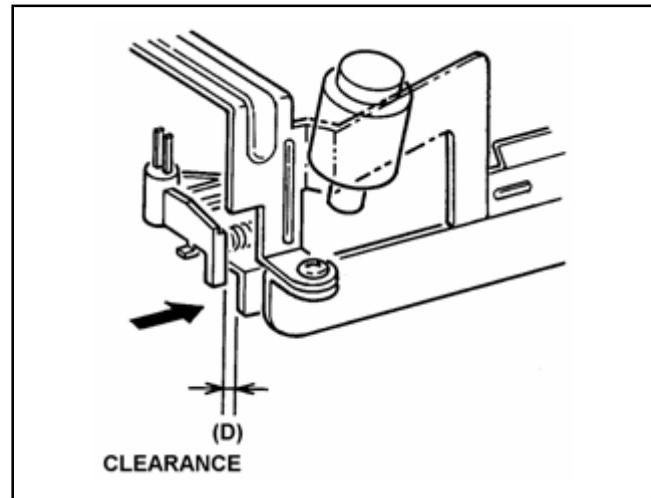

Figure 5-22-3
2. Observe the clearance (D) between Cleaning Arm Unit and Cleaner Base Plate as shown in Figure 5-22-3. And make sure that it is within 0.5 to 0.7mm.
3. If not, loosen the 2 screws (A) and adjust the position of Cleaner Solenoid Unit by moving arrow direction ( $C \leftrightarrow C$ ) using the Eccentric drive so that the clearance (D) is within the specification. And tighten the 2 screws.